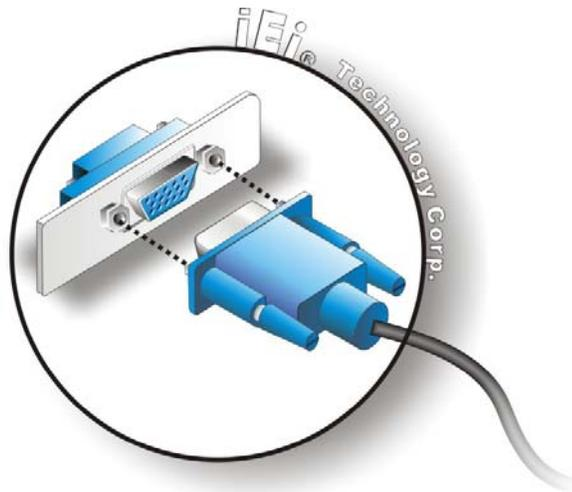

Figure 4-37: VGA Connector
Step 3: Insert the VGA connector Once the connectors are properly aligned with the insert the male connector from the VGA screen into the female connector on the PPC-37xx-N270. See **Figure 4-37**.